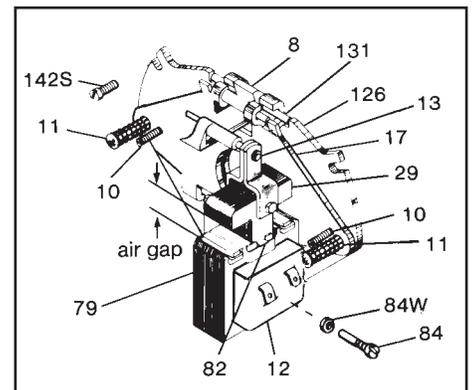

Figure 8
**Note 2:** Both adjustment screws (11), Figure 8, must be turned equal amounts counterclockwise to decrease torque.
### A. Adjustment for friction disc wear (see Table 2 and Figure 8)
1. Refer to Figures 8 and 9. Insert screwdriver between support plate (126) and lever arm (17). Wedge apart and remove as an assembly bearing pin (26), bearing (6), pin (131), solenoid lever (8) connected to solenoid link (13) and plunger (29).